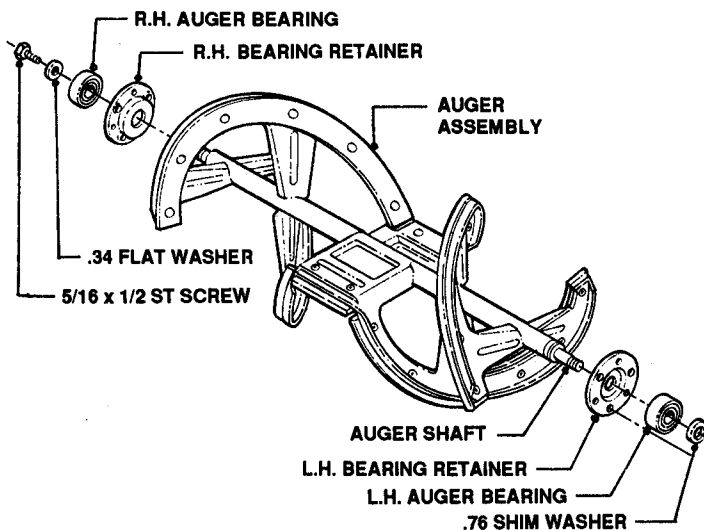
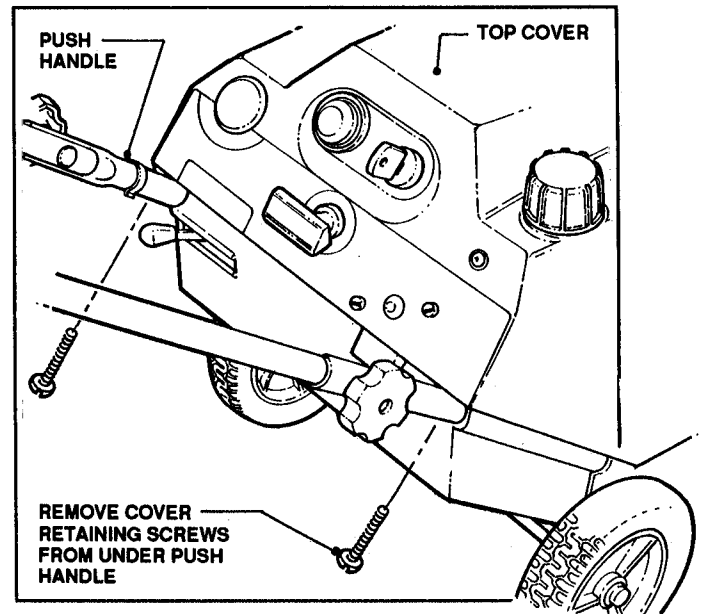

FIGURE 7.11
FIGURE 7.12
- (6) Remove the 5/16 x 1/2 ST screw and .34 flat washer from the R.H. end of the Auger Shaft. See Figure 7.11.
- (7) Remove the washer and shim washer from the ends of the Auger Shaft.
(8) Move the left side of the Auger Housing "OUT" enough to free the left end of the Auger Shaft.
(9) Remove Auger Shaft from Housing.
(10) Rebuild/Replace and Reinstall Auger in reverse order.
F. Bearings worn out. Replace as shown in Figure 7.11 (above).
- (1) Remove Discharge Chute.
(2) Remove the Top Cover by first removing the two (2) Cover Retaining Screws from under the Push Handle, then lift up on the rear of the Cover and disconnect the Switch, Primer, Gas Tank and Electric Start Button. Disengage the Front Locking Tabs from the Auger Housing. See Fig. 7.12.